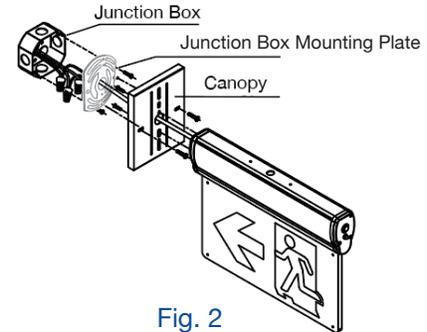

Fig. 2
4. For flag mount (Fig.2): Remove the side knockout cover and pull wires through to the wiring compartment of the fixture. Connect the fixture to the canopy using screws.